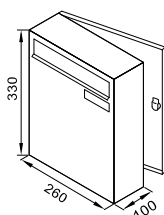

Fig. 5. BOX 1 letter box.
- **BOX 1** - dimensions 260 x 330 x 100 [mm] - Fig. 5;